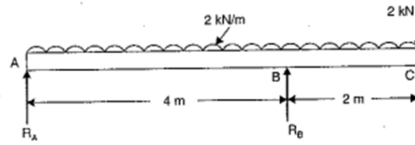

Figure 2
- (b) Draw the shear force and bending moment diagrams of a overhanging beam carrying UDL of 2 kN/m over the entire length and a point load of 2 kN as shown in Figure 2. [7M]